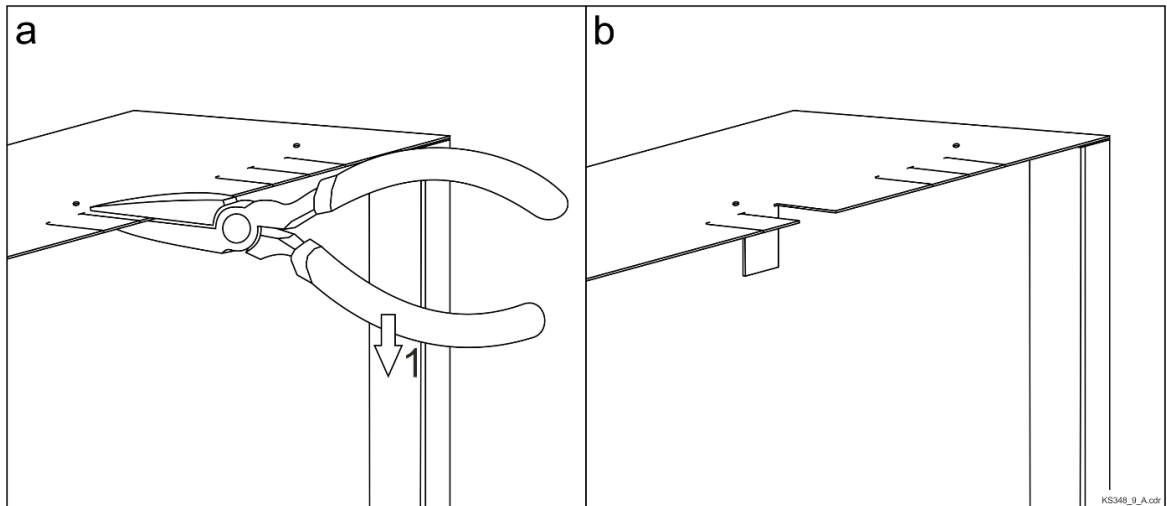

Fig. 4 Forming cutouts for routing cables from the bottom or top panel of the enclosure
10. If you wish to route cables into the enclosure from the top or bottom panel, use the cutouts indicated in Fig. 4.